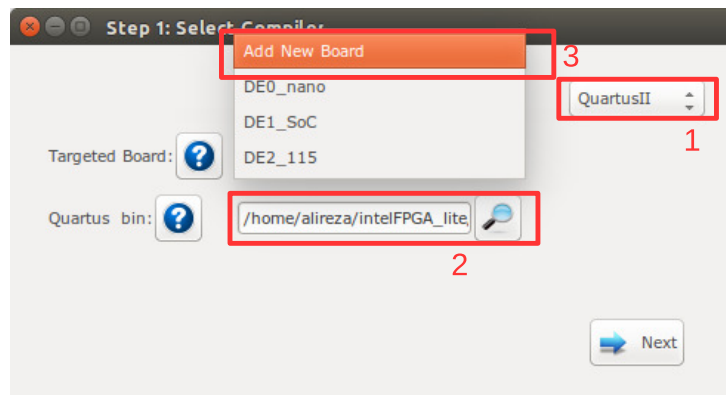

Figure 5.22: Select QuartusII as compiler.
1. Press  Compile RTL button in right down corner. This should open "select compiler window" as shown in Figure 5.22. Select QuartusII or Vivado as the compiler tool depend on your FPGA vendor.